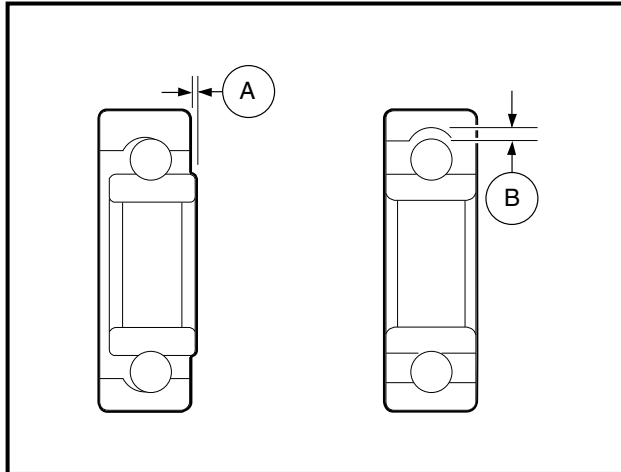

Figure 13-91 Check Ball Bearing
2. Spin the ball bearing by hand and check for (A) axial play and (B) radial play. Replace the ball bearing if it is noisy, does not spin smoothly, or if it has any play (**Figure 13-91, Page 13-42**).